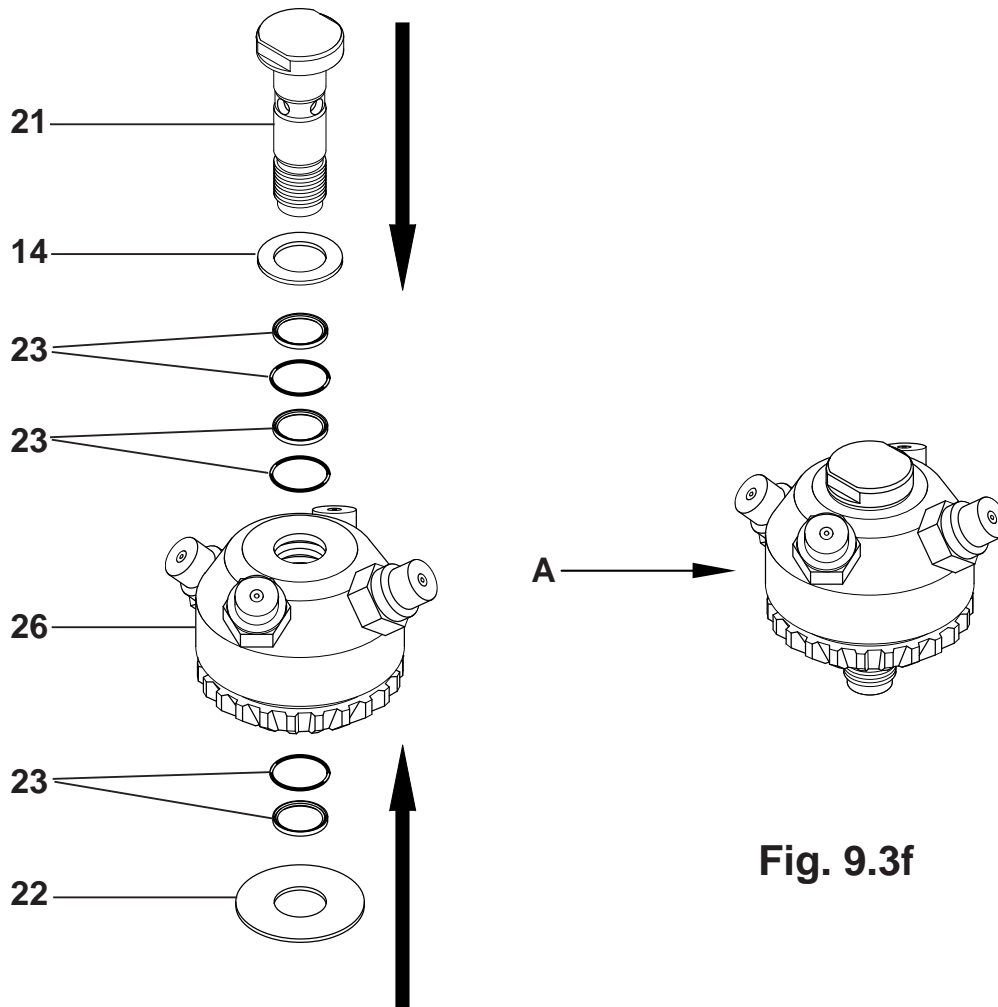

**Fig. 9.3e**
9.3.10) Fit the O-ring pos.24 and the complete turning unit (kit "G"), as per fig.9.3e, so that the next assembly phase can be done correctly.